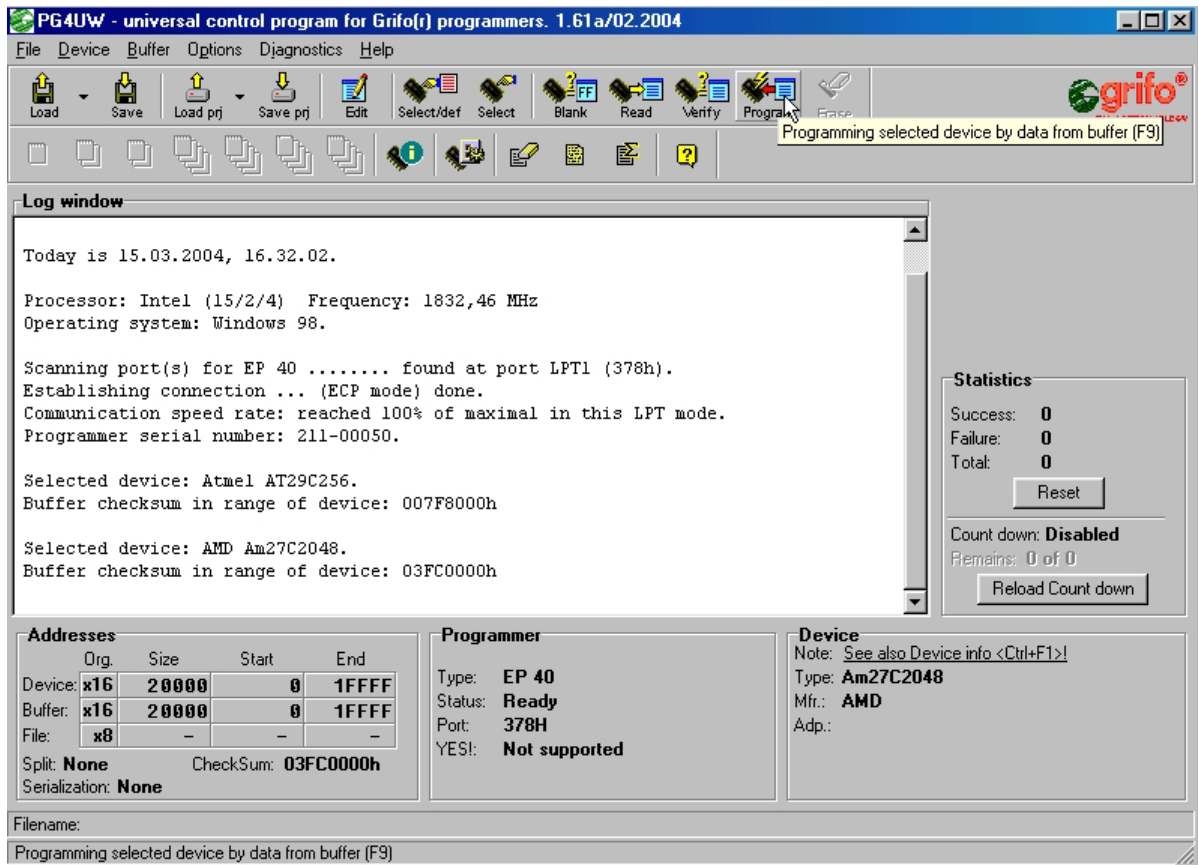

FIGURE 12: READ DEVICE MEMORY MENU
- Insert the device to be programmed into the ZIF socket of the programmer and program it with the current buffer content through the Device/Program menu or the keyboard shortcut <F9> (figure 12, Windows version).